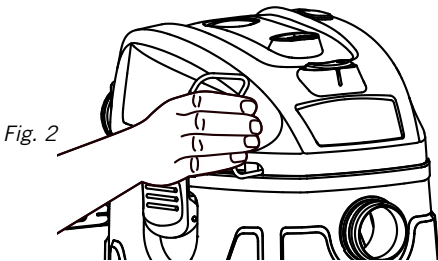
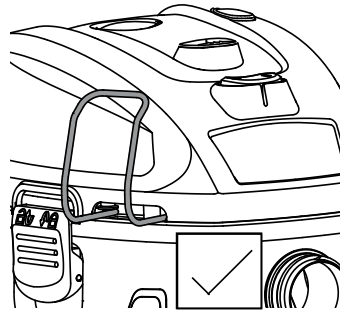

Fig. 2
Fig. 3
5. Position the hose storage rack **3** on the front side of the power head, just above the top edge of the tank, as illustrated in **Fig. 2**. Squeeze the open sides of the hose storage rack **3** inward and insert the open ends into the allocated slot. Verify that the rack is secured in place as shown in **Fig. 3**. Install the second rack in the same way, ensuring it is secured. **Fig. 2-4**.